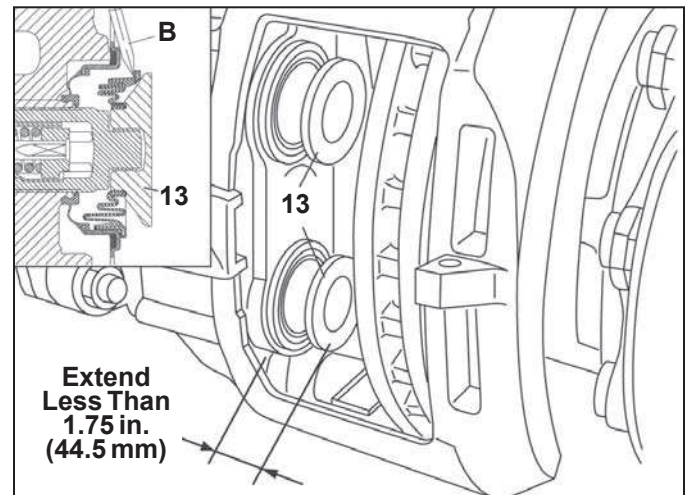
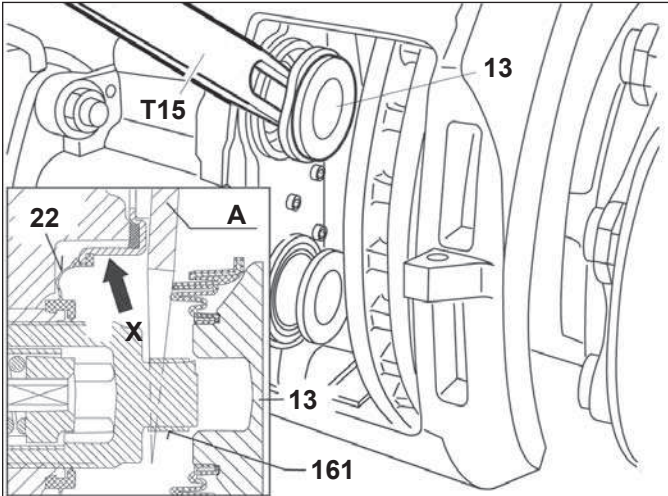

FIGURE 47 - PERMITTED TAPPET EXTENSION
FIGURE 48 - WEDGE TOOL USE
CAUTION: NEVER EXTEND THE TAPPET MORE THAN 1.75 in. (44.5 mm). See Figure 47. Over-extending the tappet will result in the tappet losing engagement with the threads of the synchronizing mechanism. Since the mechanism can only be set at the manufacturing plant, the caliper/carrier assembly must be replaced if this happens.
5.5.4 See Figure 47. Extend the tappets — less than 1.75 in. (44.5 mm) — by turning the shear adapter (61) clockwise. A screwdriver (callout “B” in
Figure 47 inset) should be used to move the boot and allow the wedge fork (“A” in Figure 48) to be inserted.
CAUTION: Do not insert the screw driver more than ¼ inch. Take care not to damage the inner sealing face (see arrow “X” in Figure 48). Gouges or grooves will prevent a good seal and will require that the caliper be replaced.